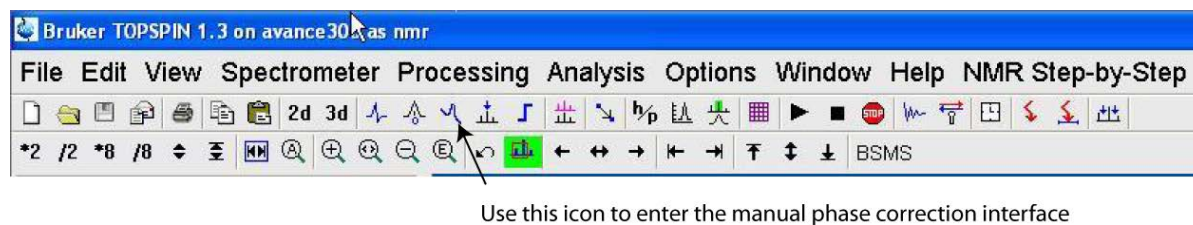

Figure 22 Topspin menu-bar icon for manual phase correction
(17) The manual phase correction interface can be opened by left clicking on the icon shown in Figure 22.